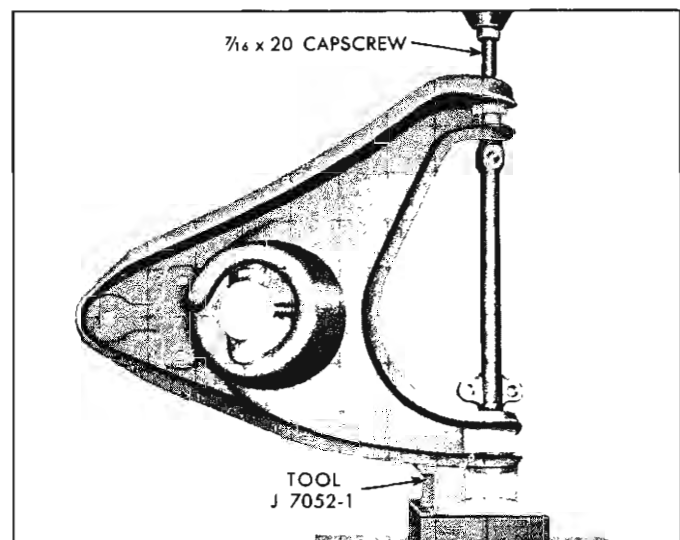

Fig. 21—Removing Second Lower Control Arm Cross Shaft Bushing
5. Remove cap screw from cross shaft. Insert it in other end of shaft. Invert control arm on support (fig. 21). Again be certain bushing flange does not contact support.